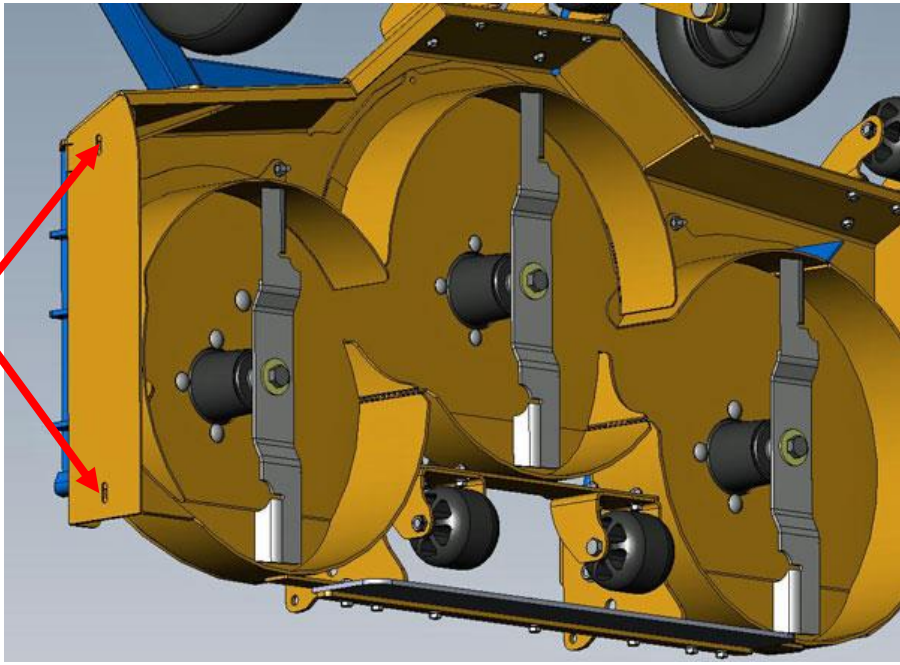

Figure 3
- 7) Install Block off plate and tighten all hardware. (Fig.3)